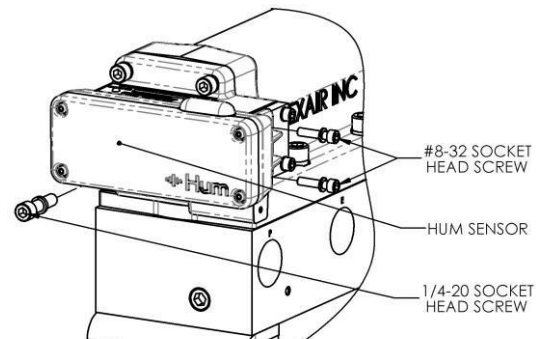

Figure 4
5.3.4. Install the HUM SENSOR to the end of the of the INTERLOCK END CAP as shown in Figure 4.